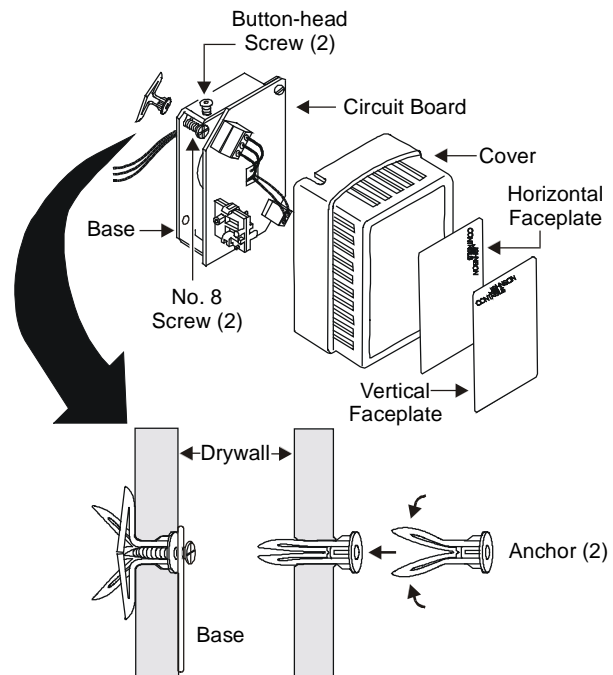

Figure 3: Mounting to Drywall
To mount the unit to drywall, refer to Figure 3 and proceed as follows:
2. Place the cover over the base, and tighten the button-head screw (shown in Figure 3) on either side of the unit to secure.